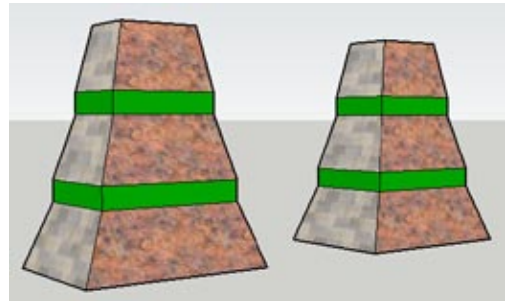

Figure 8-21
2. To change the material of the six front stone faces, select them in advance. Pick a new material and click any selected face. They are all painted at once (Figure 8-21).